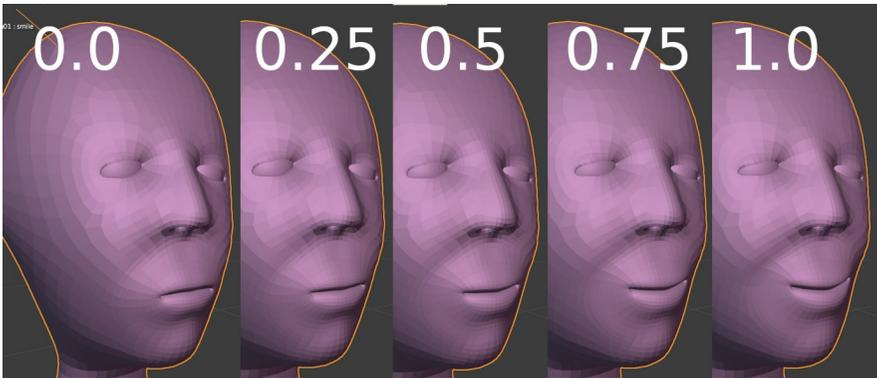

Figure 7-18 The Smile Shape Key
5. Try the slider on the smile shape key as shown in Figure 7-18. You can add other shape keys, and when you edit the mesh with each shape key selected you will create the positions of vertices equivalent to that specific shape key being set to 1.0. However in Object mode you can position several shape keys to different values and the results will all be combined.